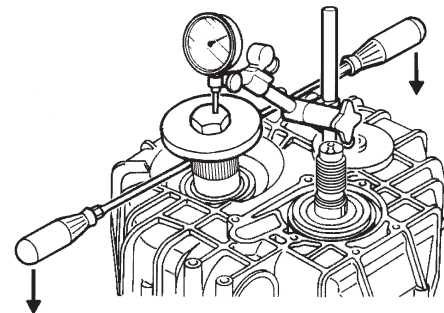

FIG. 5-6
- Lift output shaft carefully, using two screwdrivers, and record measurement (Fig. 5-6).